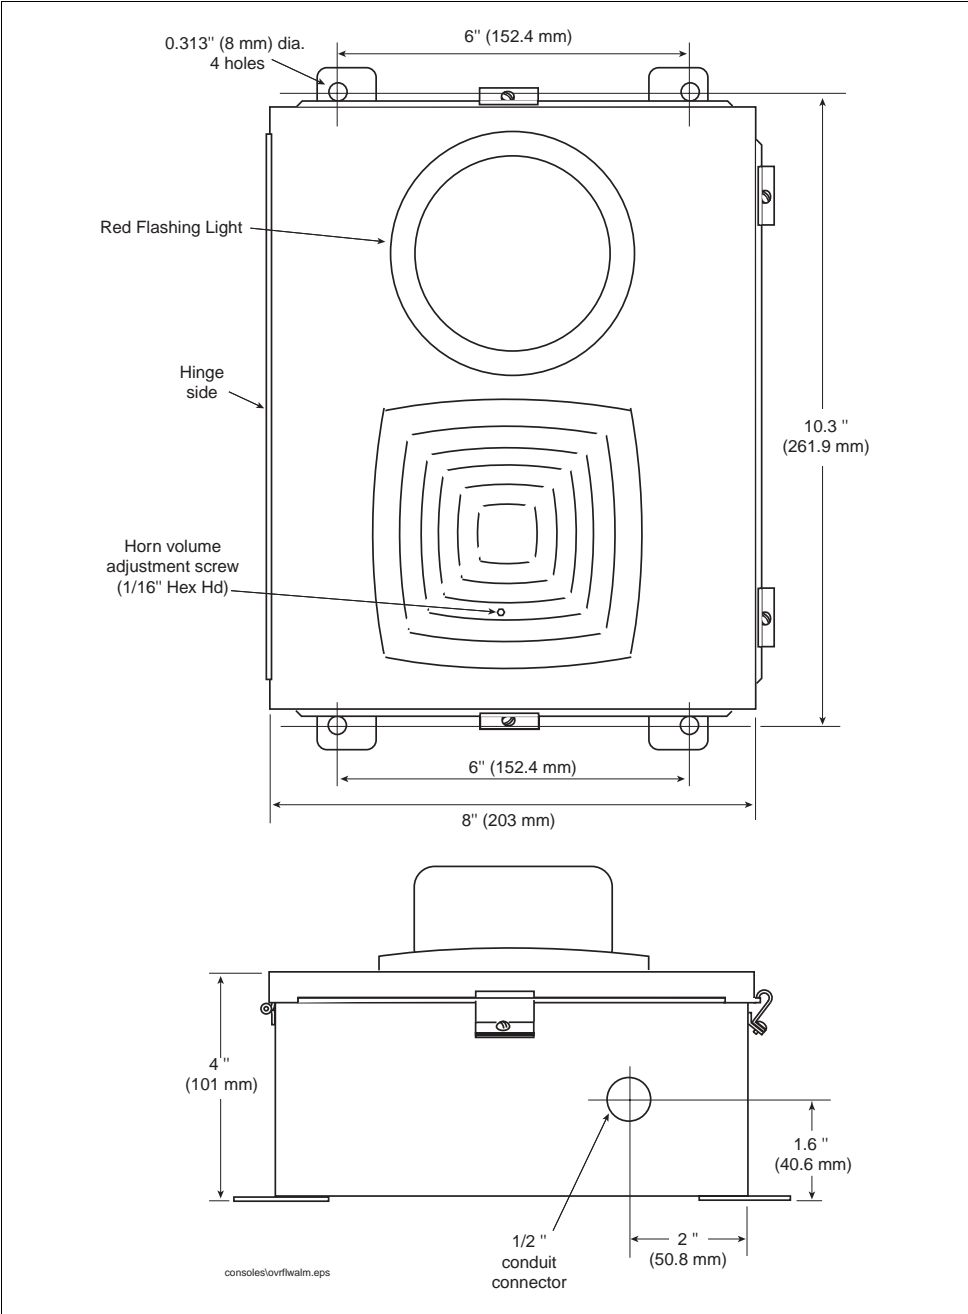
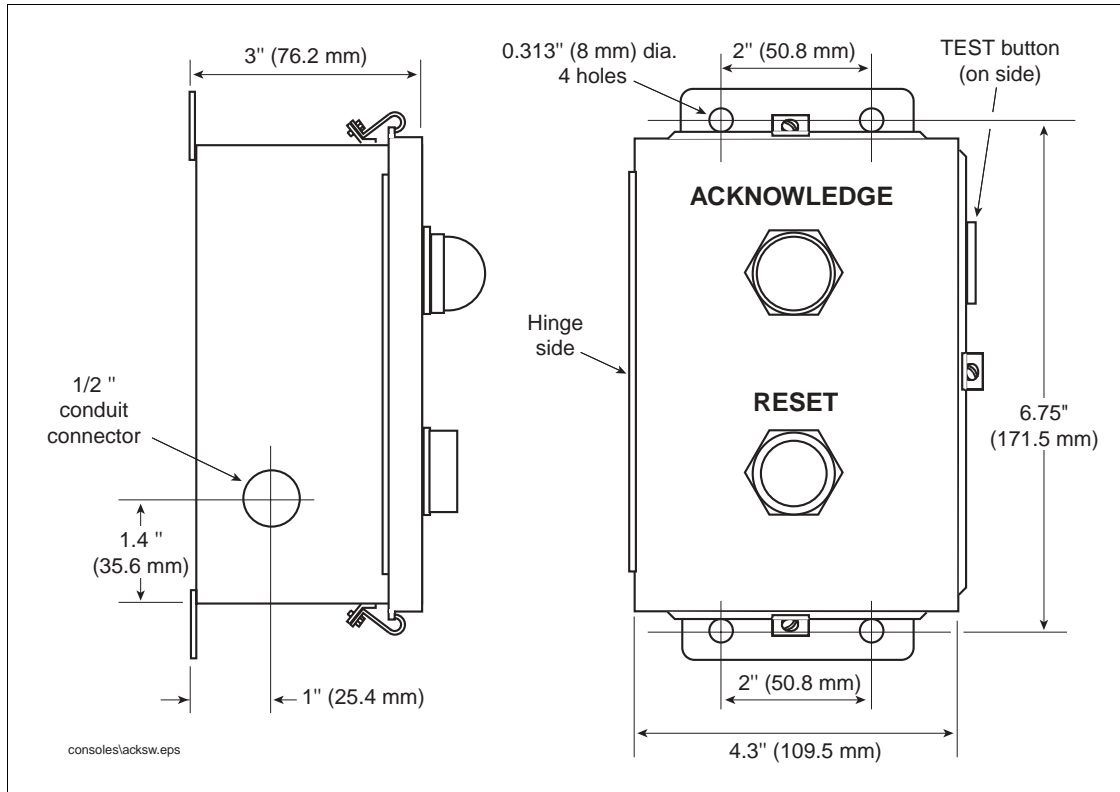

Figure 1. Overflow Alarm mounting dimensions
Figure 2. Acknowledgement Switch mounting dimensions
Figure 1 shows the Overflow Alarm mounting dimensions and Figure 2 shows the Acknowledgement Switch mounting dimensions.
2. Locate and mark mounting holes using the hole pattern in Figure 1.
2. Locate and mark mounting holes using the hole pattern in Figure 2.
1. Locate the adjustment set screw (1/16" Hex wrench) on the exterior of the Overfill Alarm's horn cover (see Figure 1 on page 3).